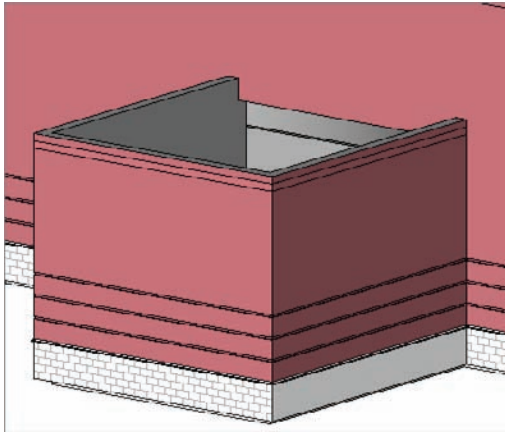

FIGURE 7.46 Changing the wall types as you have been doing all along
2. Select the three walls that compose the jog in the south wall, as shown in Figure 7.46.
3. From the Properties dialog box, switch these walls to Exterior - Brick And CMU On MTL. Stud (No Parapet), as shown in Figure 7.46.